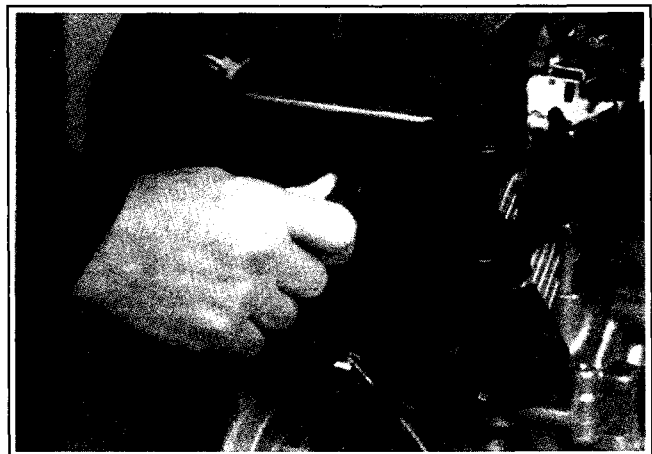

Figure 11-60. Connect Spark Plug Leads.
1. Connect the leads to the spark plugs. See Figure 11-60.